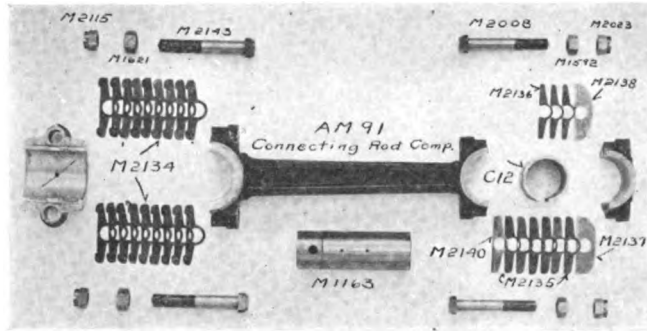

Fig. 7. Connecting Rod Assembly for the "75" Engine.
- 65 — The wrist pin bearing, also called the piston pin bearing, is a bronze bushing open on one side that fits over the piston pin and is clamped inside the cap that fits over the upper end of the connecting rod. The bronze bushing C 12, in Fig. 7, is prevented from turning by the shim, M2137, that fits in the open side of the bronze bushing. The upper end of the connecting rod assembly can move sideways on the piston pin about $\frac{1}{8}$ inch. If the crank end of the connecting rod bearing is properly cared for, there will be but little trouble with the wrist pin bearing.
- 66 — Fig. 7 shows a connecting rod assembly for the "75" engine.